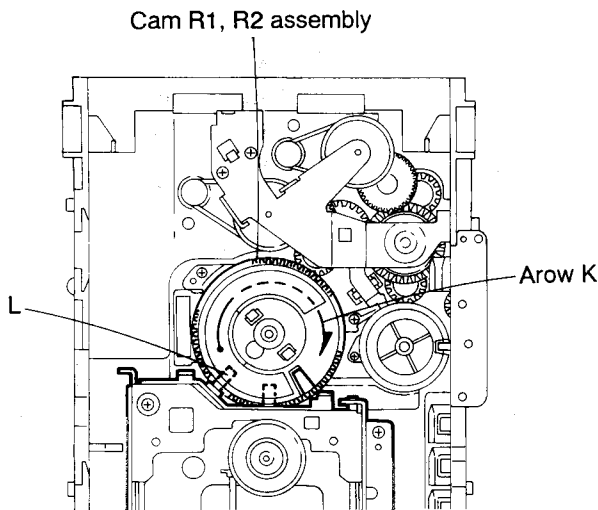

Fig. 5-40
Removing the CD mechanism (See Figs. 5-40 and 5-41)
1. For dismantling only the CD mechanism without removing the CD mechanism assembly, align the shaft (L) of the CD mechanism assembly to the position shown in Fig. 5-40 while turning the cam R1 and R2 assembly in the arrow direction (K).